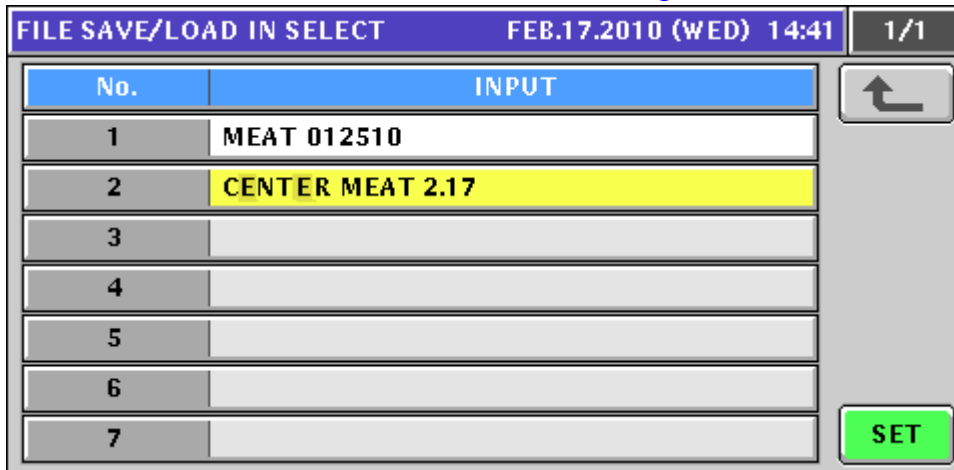

Figure 52. Select Input File
- i. Press **SET** to select the file and return. See Figure 52.